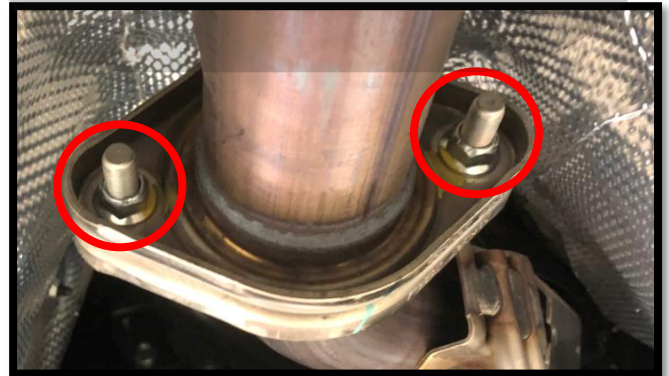

Figure 4b
c) Remove the two 14mm nuts that attach the OEM midpipe section to the OEM header. The nuts are circled in red in **Figure 4b**. The midpipe section will remain supported by the rubber hangers and the rear support method you used in step 1d.